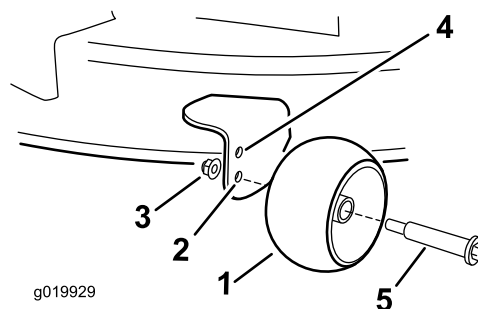

Figure 31
- Upper hole—use this position with the mower deck in the 63 mm (2-1/2 inch) and below the height-of-cut positions (Figure 31).
- Lower hole—use this position with the mower deck in the 76 mm (3 inch) and above the height-of-cut positions (Figure 31).